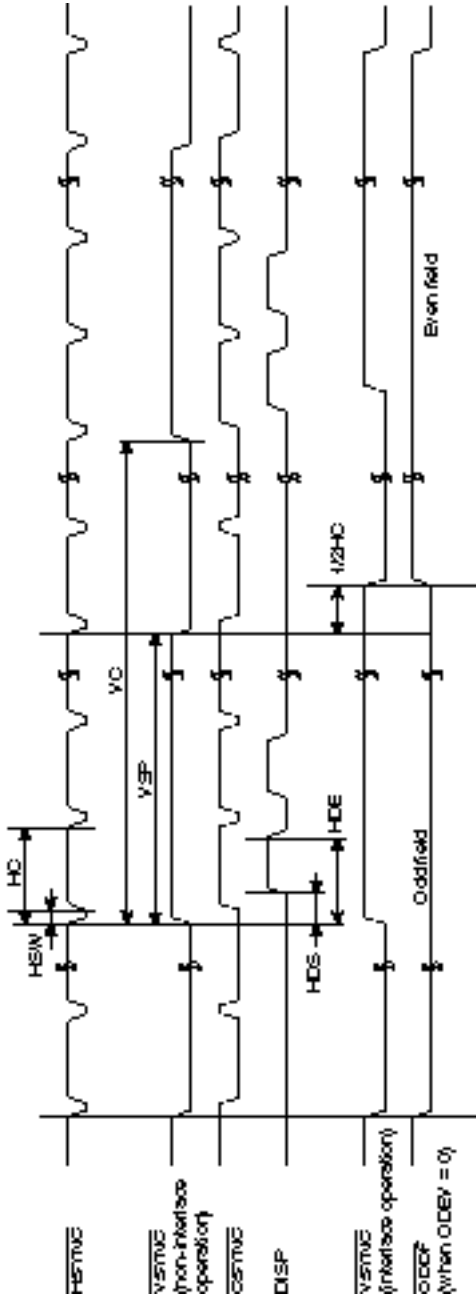

Figure 3.16 Display Timing
**Display Timing:** The relationship between the display control register settings and the display signals is shown in figure 3.16.